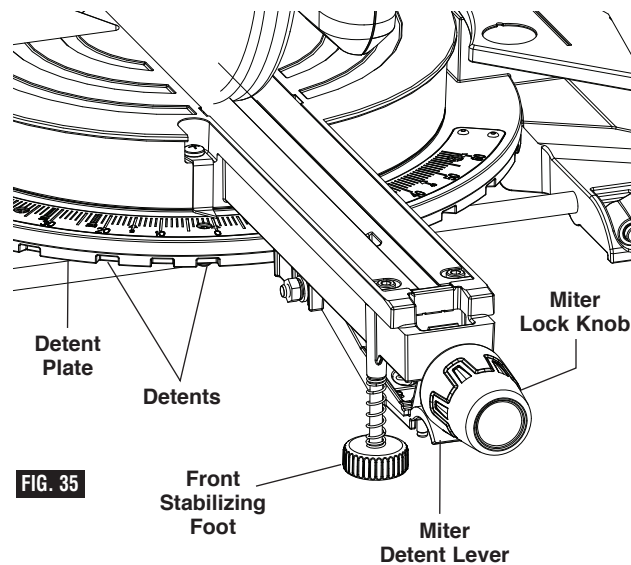

FIG. 35
1. Loosen the miter lock knob about 1/2 turn (see figure 35).